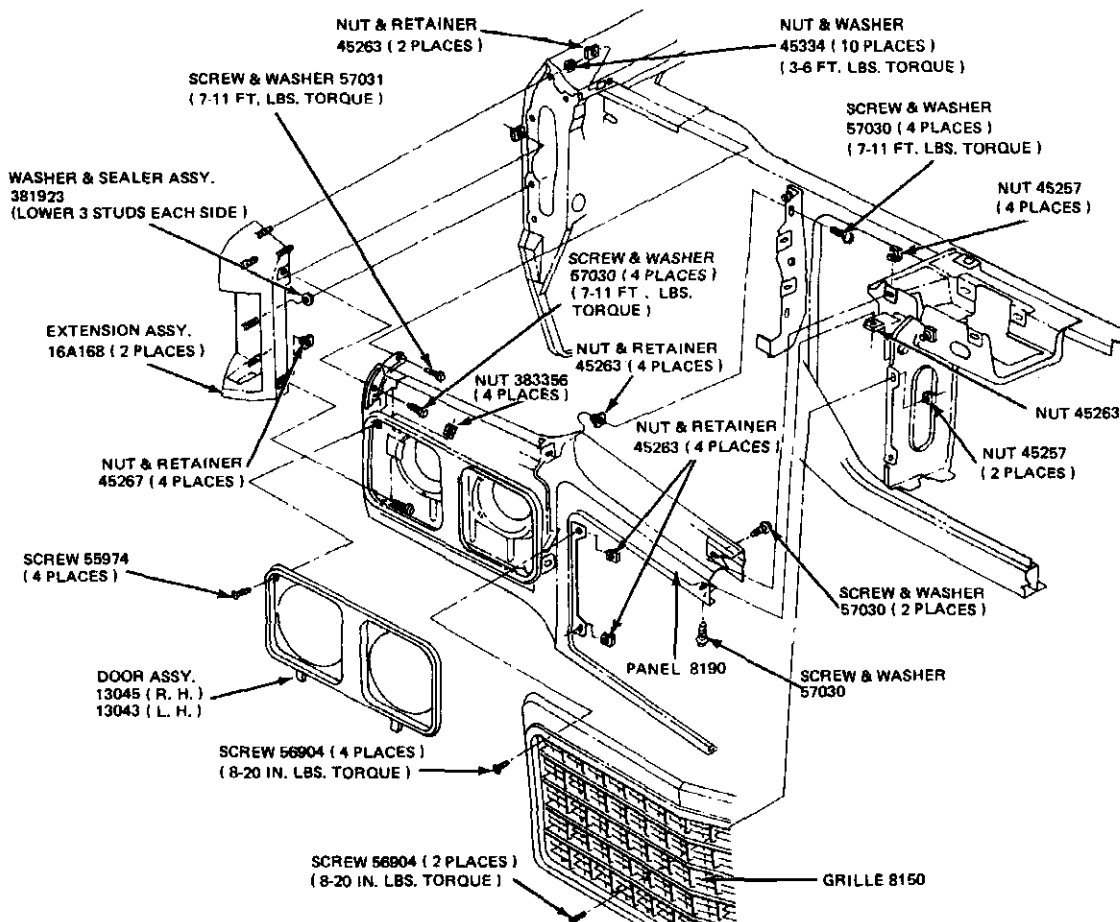

FIG. 2 Radiator Grille Installation—Ford Low Series
1. Remove two (2) upper bright screws and lift door out of lower attaching access notches in grille opening panel (Fig. 2).